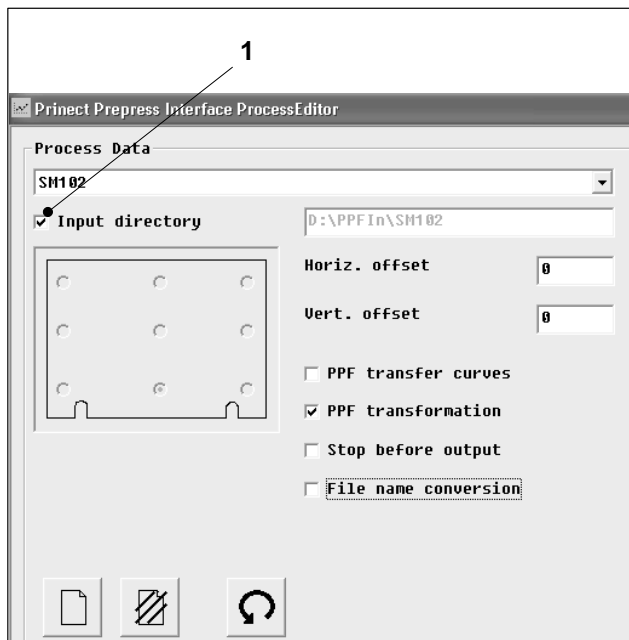

Fig. 27 The *Process data* section
1. If the process has not been activated, click on the *Input directory* check box (Fig. 27/1). The input directory is activated automatically, and a check appears in the box.